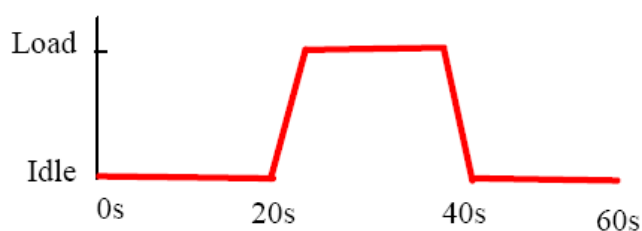

Figure 1 – Diesel particulate load cycle – Standard method
- h) Testing shall be carried out over a 60 second cycle and on the undiluted raw exhaust as indicated in **Figure 1** below.